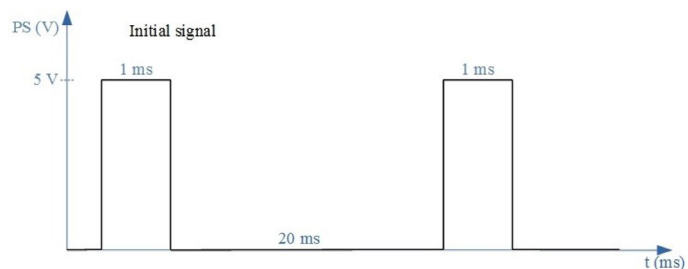
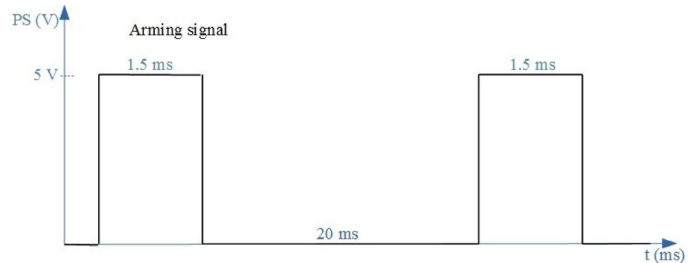
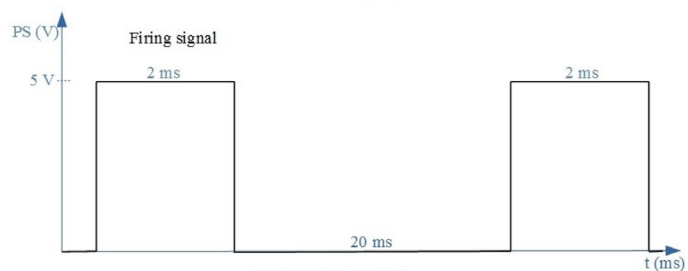

Figure 3:Initial signal
Figure 4: Arming signal
Figure 5: Firing signal
- (1) By powering ON drone batteries, electronic module power is ON and blocking time counting is started (30 s or on customer demand);
- (2) Transport safety fuse TF is pulled out;
- (3) Working safety fuse WF is pulled out;
- (4) After pulling out transport and working safety fuse (TF and WF) drone is ready to takeoff;
- (5) After blocking time expiration initial signal is send (Figure 3.);
- (6) After receiving of the initial signal fuze is ready for arming (7);
- (8) Arming signal is send (Figure 4.);
- (9) After receiving of the arming signal, time of 2 s is counting down;
- (10) After expiration of 2 s fuze get permit for work of executive electronic;
- (11) Target detection (impact function) or receiving firing signal (Figure 5.) (directed function);
- (12) Firing.